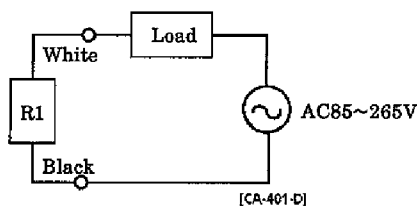

Fig.1 R1 An example of basic circuit
- Install some protective circuit as per illustrated in Fig. 1 below when inducing type load (relay or solenoid valve) are to be used because those types are apt to generate surge current at turning switch OFF.